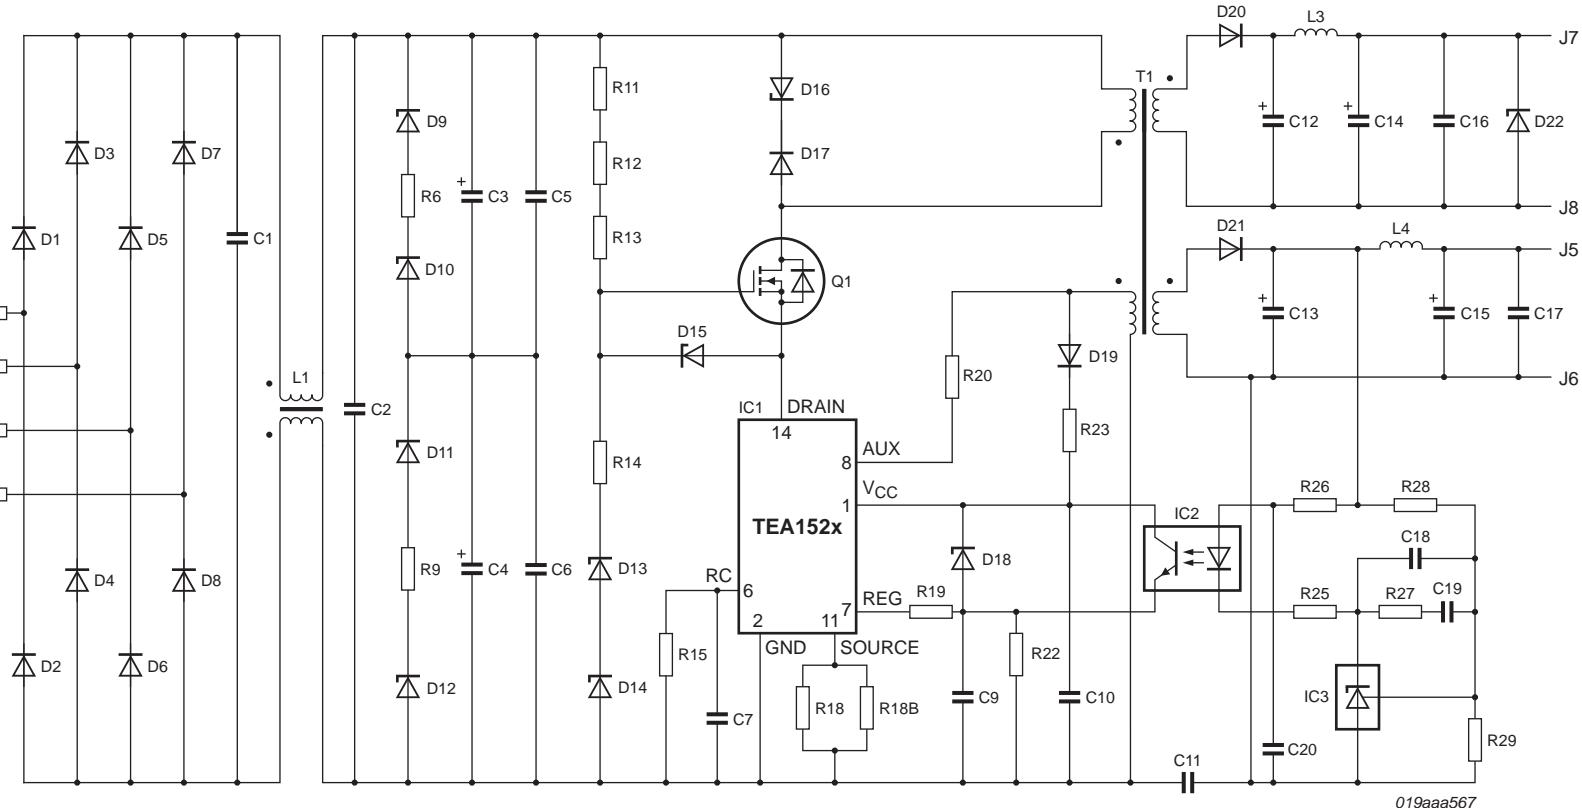

Fig 5. STARplug SMPS with isolated 12 V (DC) output
6.1 Mains isolated 12 V (DC) output
A mains isolated 12 V (DC) output can be obtained by omitting inductor L2 as shown in Figure 4. In addition, the Printed-Circuit Board (PCB) allows alternative L2 inductors to be installed e.g. a plain wire or other suitable component to experiment with the circuit. Refer to Figure 5 and the component list in Table 6.